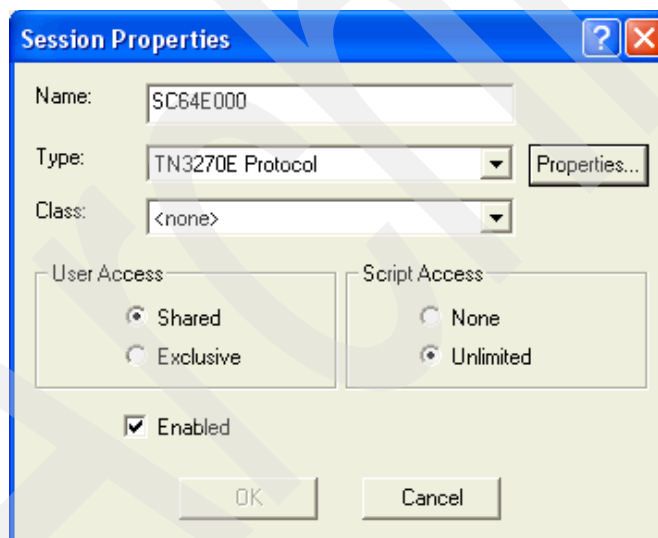

Figure F-10 Server Configuration Host sessions page - part 1
7. The Session Properties panel is displayed (see Figure F-10). On the Session Properties panel, the following options are defined: